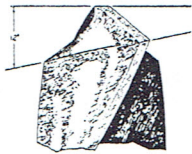

Fig. 10A
**THE PROPERLY GROUND DRILL:** Two rules are especially important when grinding drill points. 1. The lip clearance angle (Fig. 10A) should be between 12 and 15 degrees. 2. The two cutting edges must be of equal length and angle. In Figs. 10A, 10B, 10C, the properly ground drill point is shown. Refer to these figures when grinding a drill—they will aid in grinding drills which will cut true-sized holes with a minimum of drill wear.